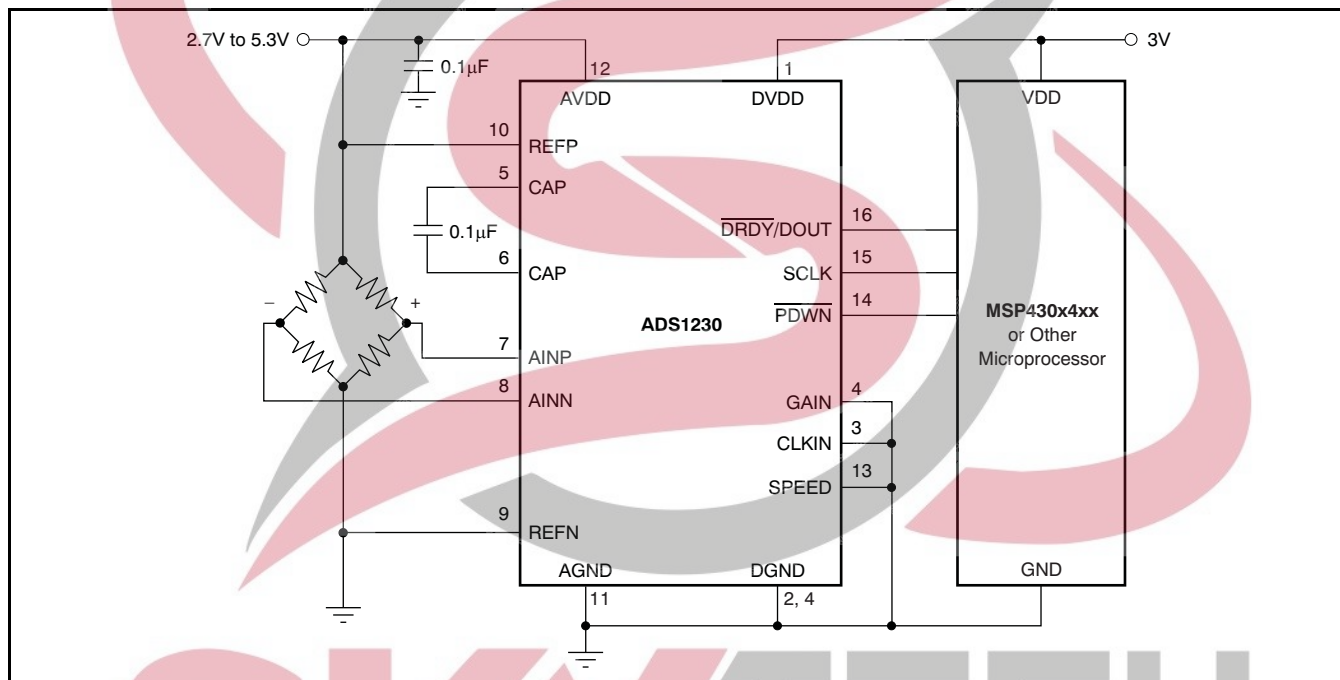

Figure 33. Weigh Scale Application
Figure 33 shows a typical ADS1230 hook-up as part of a weigh scale system. In this setup, the ADS1230 is configured at a 10SPS data rate. Note that the internal oscillator is used by grounding the CLKIN pin. The user can also apply a 4.9152MHz clock to the CLKIN pin. For a typical 2mV/V load cell, the maximum output signal is approximately 10mV for a single +5V excitation voltage. The ADS1230 can achieve 17.5 noise-free bits at 10SPS when PGA = 128. With the extra software filtering/averaging (typically done by a microprocessor), an extra bit can be expected.
- Changed *Figure 33* **20**